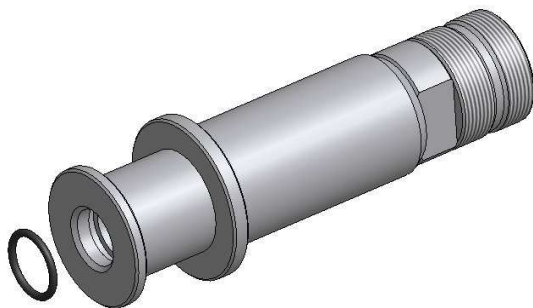

Figure 36 – Sample Tube Actuator
Fit new 'O' Ring (Figure 3, item 11) to bore of the Sample Tube Actuator (Figure 36).